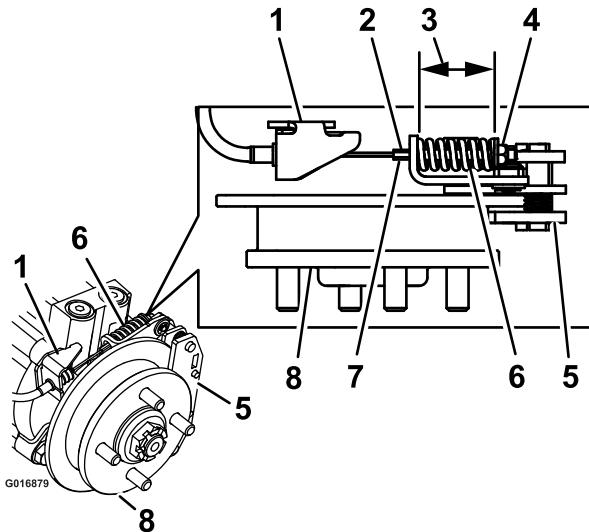

Figure 74
9. Hold the threaded rod end with a tool and adjust the lock nut until the spring length is between 1-1/2 and 1-9/16 inches (3.8 and 4.0 cm) (Figure 74). Do Not allow the cable to turn when the nuts are being loosened.